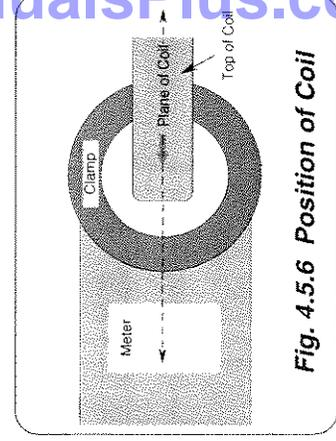

Fig. 4.5.6 Position of Coil
- Fig 4.5.6. Place the vertical arm of the coil, as far as is possible, in the center of the air space of the clamp. Align the center axis of the meter along the plane of the coil itself.